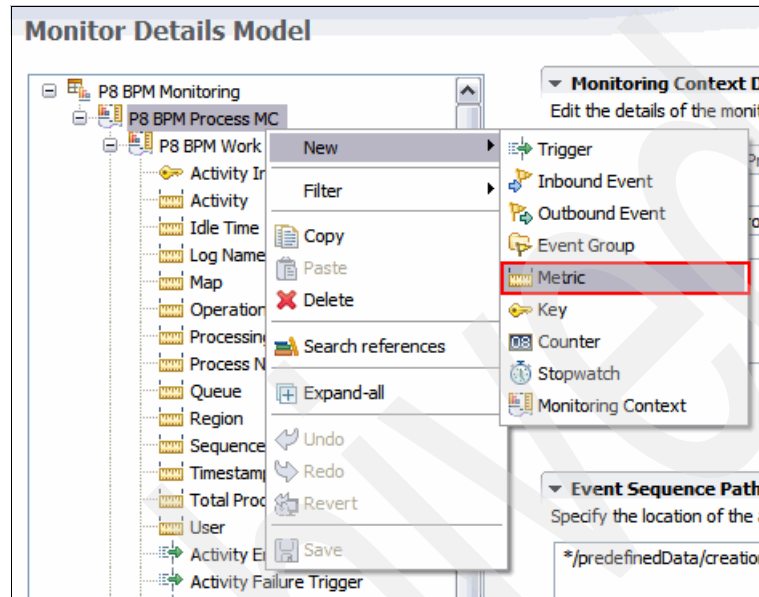

Figure 7-79 Monitor Details Model
1. In the Monitor Details Model panel (Figure 7-79), in the model tree, right-click **P8 BPM Process MC** and select **New** → **Metric**.